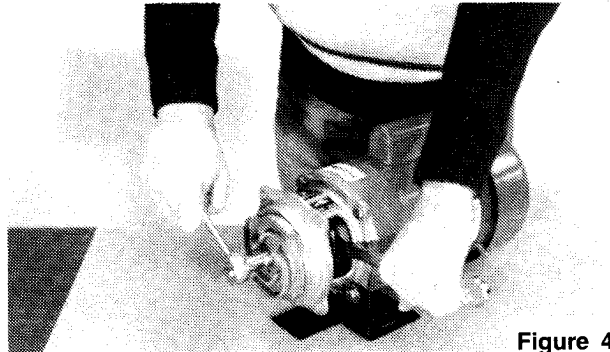

Figure 4
2. Insert wrench between openings in adapter and place on flats of stub shaft. While holding shaft against rotation, remove the impeller retaining assembly using a 7/16 socket (Fig. 4).